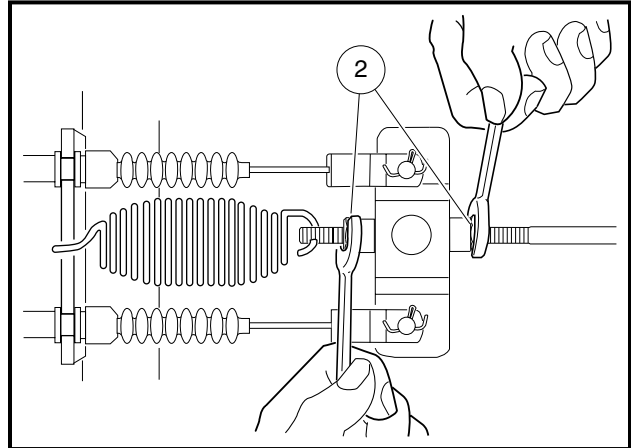

Figure 5-11 Loosen Front Brake Equalizer Rod Nuts
- 2.3. **Four-wheel brake vehicles only:** Loosen the front brake equalizer rod (**Figure 5-11, Page 5-17**).